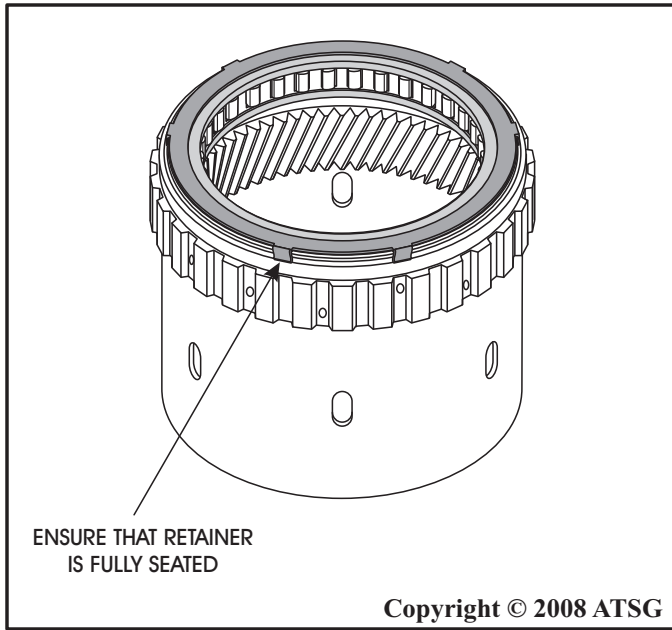

Figure 106
9. Ensure that low sprag retainer is fully seated, as shown in Figure 106, and inspect it the full 360 degrees.